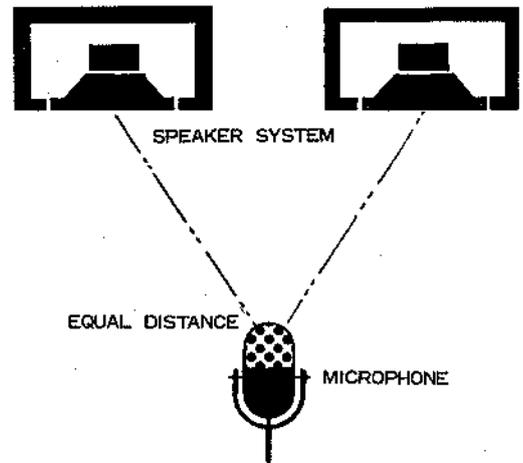

Fig. 15
2. Place the microphone (impedance: about 50 kΩ) in front of the two speakers at an equal distance from each speaker as shown in Fig. 15